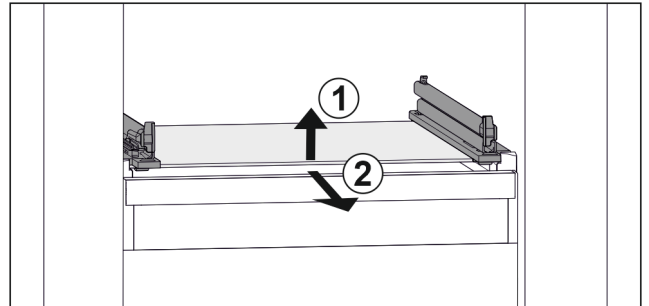

Fig. 102 Example illustration of glass shelf
- ▶ Lift glass shelf at the front. Fig. 102 (1)
- ▶ Take out glass shelf to the front. Fig. 102 (2)